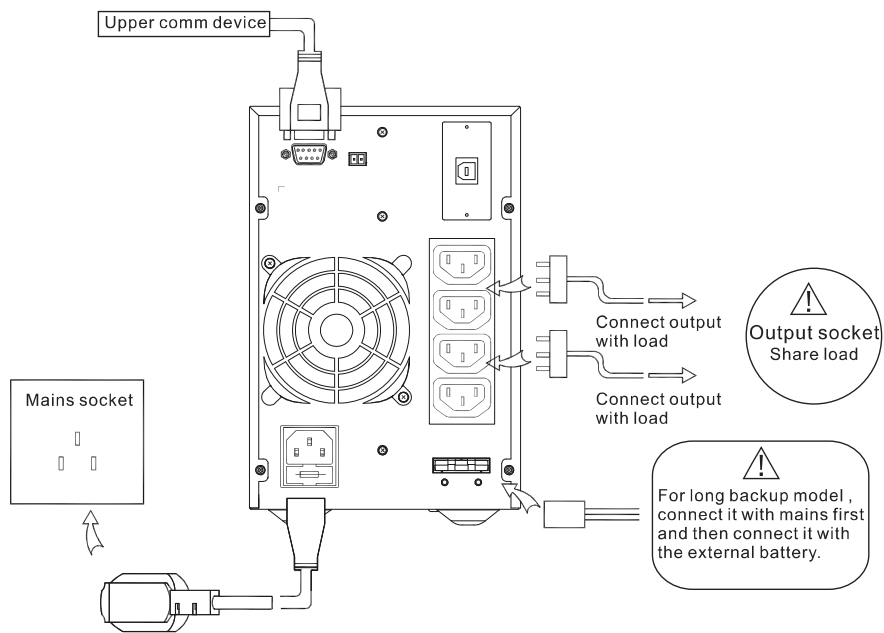

Figure3-4 Wiring diagram of 1kVA(L)
In the 1kVA(L) series UPS, the input and output adopt sockets. When using it, please connect one end of the input power wire with input socket and then connect the other end of the input power wire with mains socket. Besides, connect the load power wire with the output socket. The wiring for the input and output of the 1kVA(L) series UPS is as shown in Figure3-4.